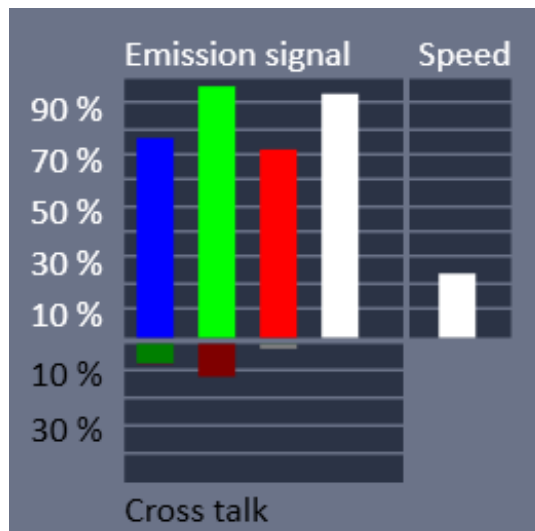

Fig. 74 Smart Setup bar charts
**Smart Setup** displays a bar chart representation of emission signal, cross talk and speed with each proposal. The color-coding specified for the stains is used for displaying the bar charts (Fig. 74).